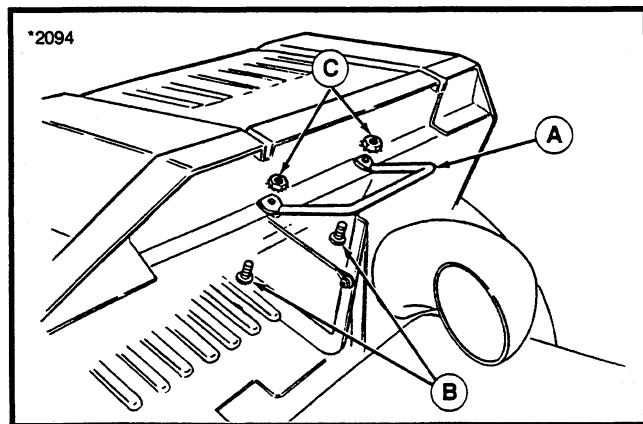

Figure 6.
7. Install handle (A, figure 6) to rear surface of lid with offset toward the rear. Secure with two 10-32 x 1/2 truss screws (B) and 10-32 nut/washer assemblies (C).